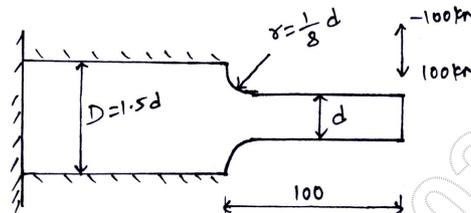

Fig.Q.4
- 4 A stepped shaft of circular cross section shown in Fig.Q.4 subjected to variable load which is completely reversed with a value equal to 100kN. It is made of SAE 1045 steel annealed ( $\sigma_u = 586.4\text{MPa}$ ,  $\sigma_y = 309.9\text{MPa}$ ,  $\sigma_{-1} = 289.3\text{MPa}$ ). Determine the diameter 'd' and radius 'r', so that the max stress will be limited to a value corresponding to a FOS of 2. Notch sensitivity index = 1. (20 Marks)